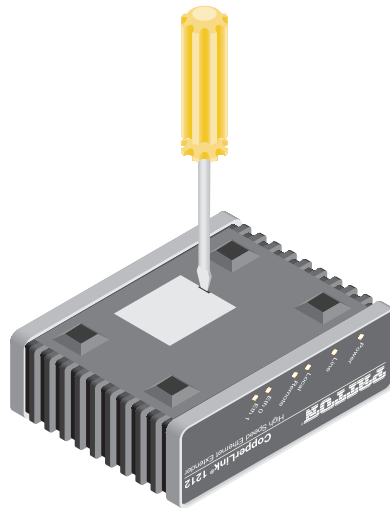

Figure 6. Removing protective cover
1. Using a small flat-tip screwdriver, remove the protective cover located on the underside of the CL1212 (see figure 6).